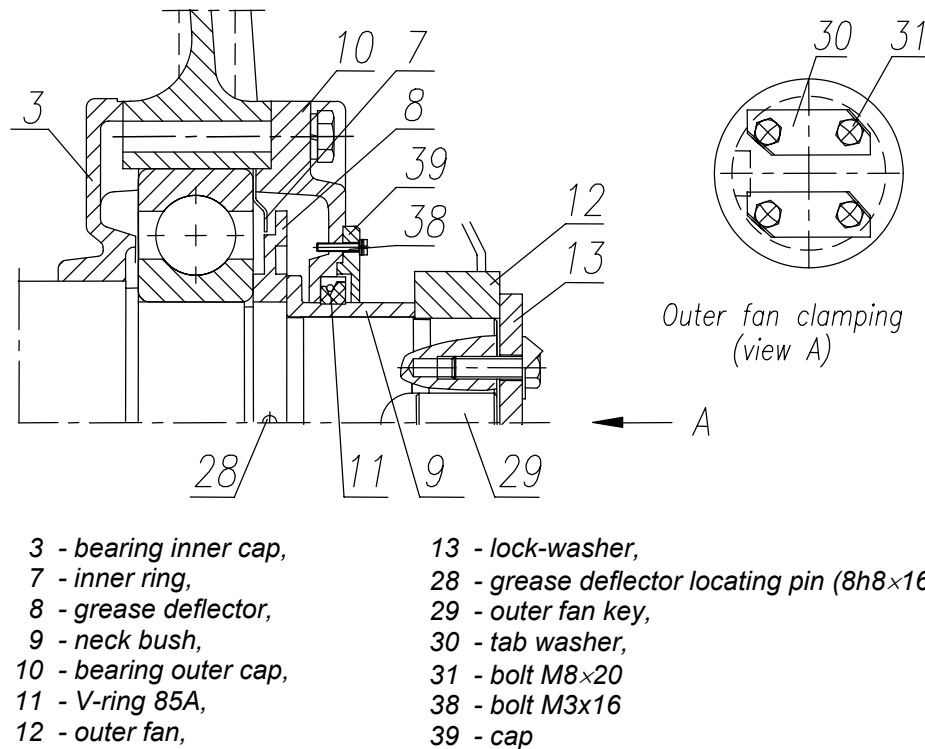

Fig. 7. Non-drive End Bearing
7.4.2. Removal of the Non-drive End Bearing /Fig. 7/
- pull-out outer fan 12 and remove fan key 29,